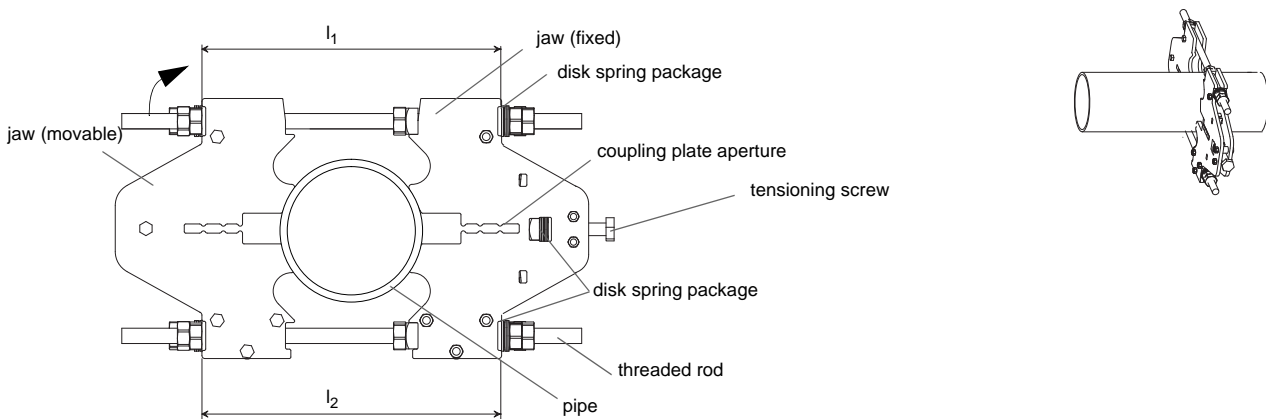

Fig. 3.2: Pipe mounting fixture mounted on the pipe (front view)
The pipe mounting fixture has 2 jaws connected by 2 threaded rods (see Fig. 3.2). One jaw can be moved along the threaded rods. The other jaw is fixed by nuts to the threaded rods. The fixed jaw has a tensioning screw for fixing the coupling plate, and 3 disk spring packages for the compensation of pipe diameter changes due to temperature fluctuations.
- Loosen the nuts of the threaded rods on the side of the movable jaw, but do not remove them (see Fig. 3.2).
- Press the threaded rod out of the movable jaw (see arrow in Fig. 3.2).
- Tighten both nuts alternately to prevent distortion or moving of the pipe mounting fixture. The distances l_1 and l_2 must be the same (see Fig. 3.2).